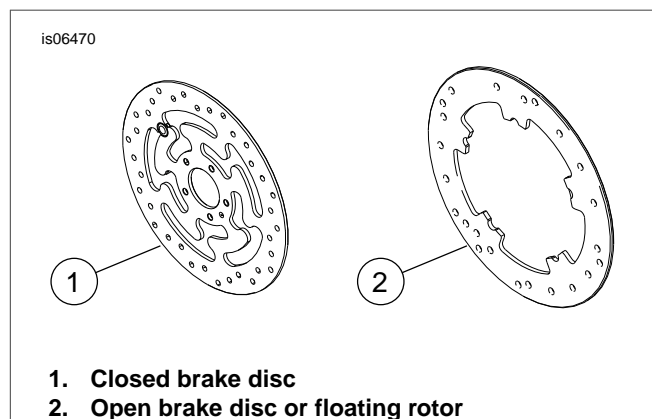

Figure 1. Front Brake Disc Styles
- Brake Disc Screws (See Figure 1 and Table 1.)